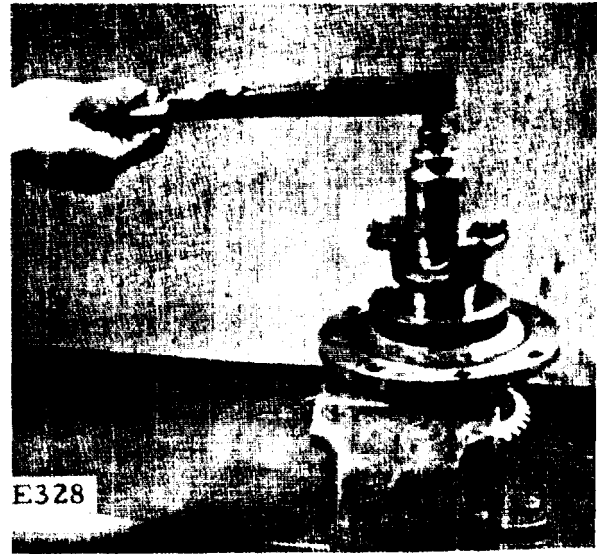

FIGURE 8-21.
g. Assemble drive shaft yoke, washer with two o-rings, and stake nut. When the stake nut is tight, the preload on the bearing is 10-20 in.-lbs. (.115-.230 kg-m) (see figure 8-21).